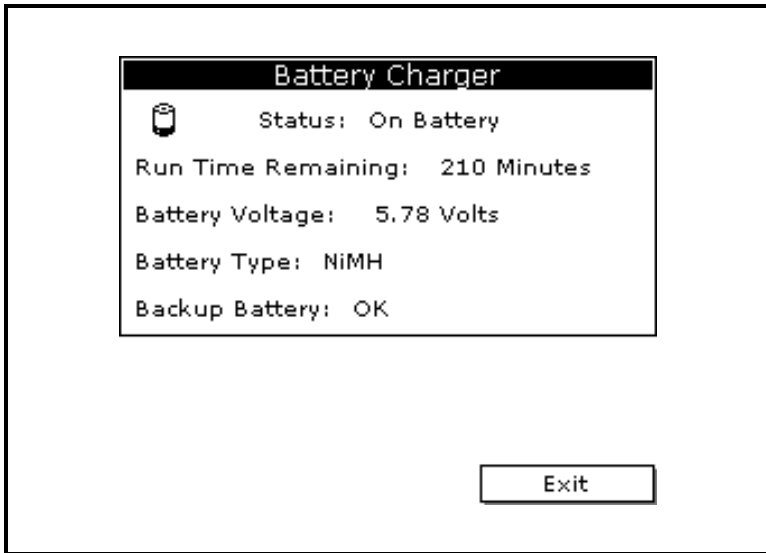

Figure 8-1: The Battery Charger Window
3. Use the arrow key to scroll to **Battery** and press [ENTER]. A screen similar to Figure 8-1 on the next page appears.